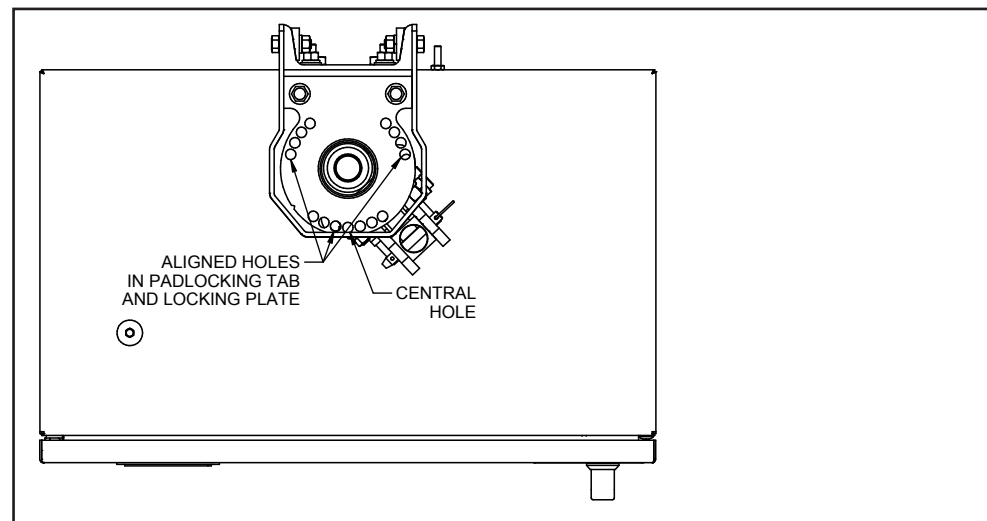

Figure 14. Align the holes for padlocking (top view, rotating operator).
- STEP 5.** Use the manual handle to move the decoupling pipe until one of the padlock holes in the locking plate lines up with the padlock hole on the decoupling pipe. The ideal position for the handle is approximately 45 degrees from the center of the enclosure front. See Figure 14 on page 24.